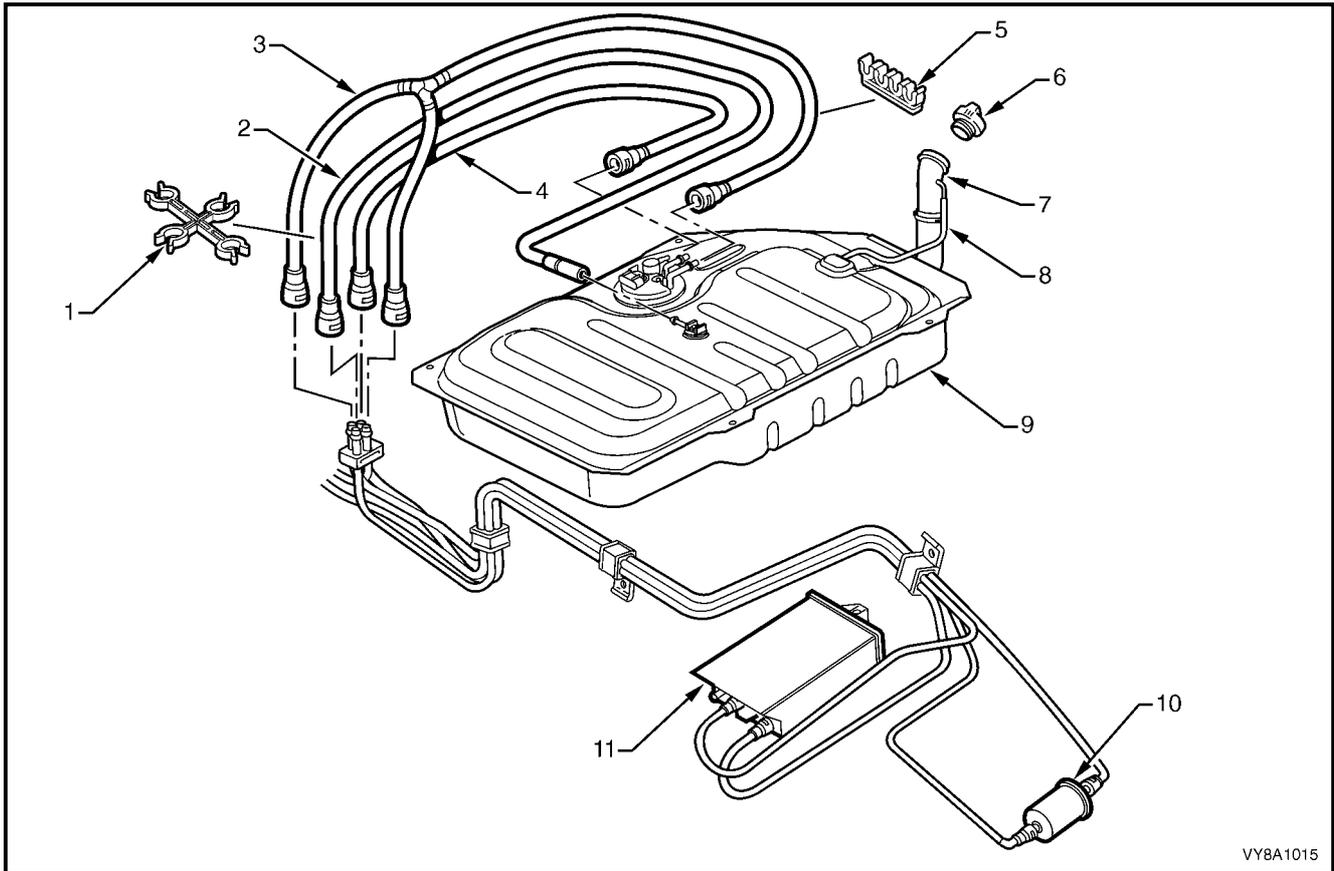

Figure 8A1-56
SERVICE NOTE: Refer to Figure 8A1-55, for GEN III V8 engines use special tool 7371 to remove the fuel feed/return to engine hose (1) quick-connect fitting and special tool AU533 to remove the fuel vapour hose (2) quick-connect fitting, refer to **2.10 QUICK-CONNECT FITTINGS**.